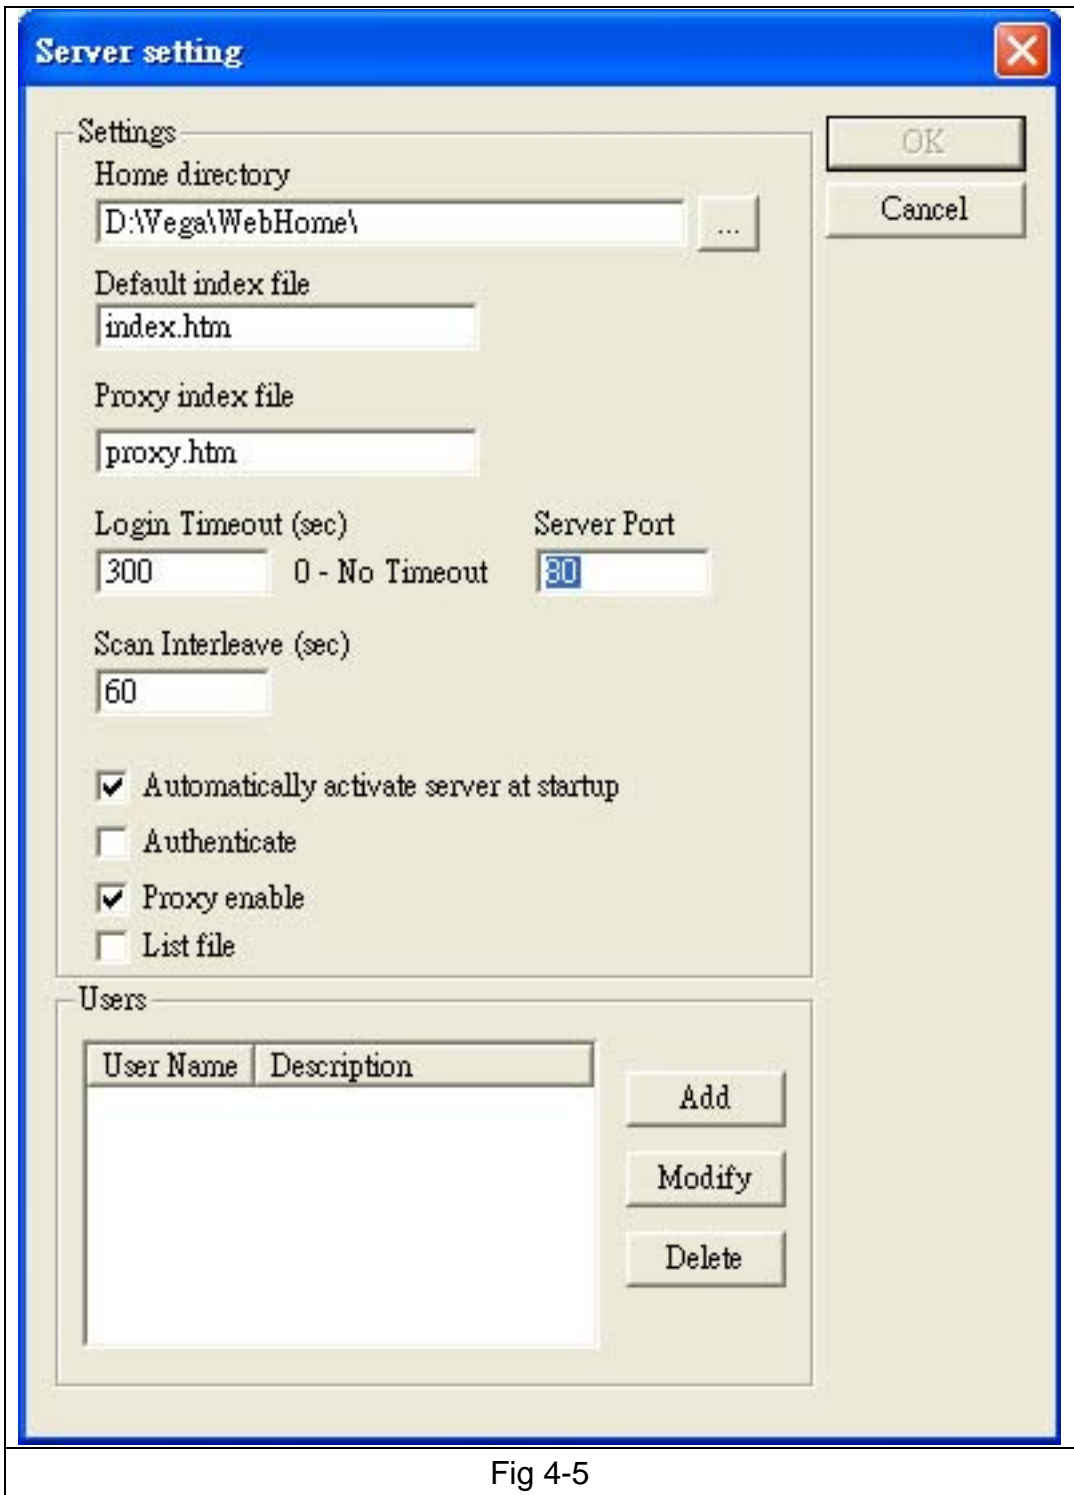

Fig 4-5
D. Click the **Server Setting** icon, the following window will show.(Fig 4-5)